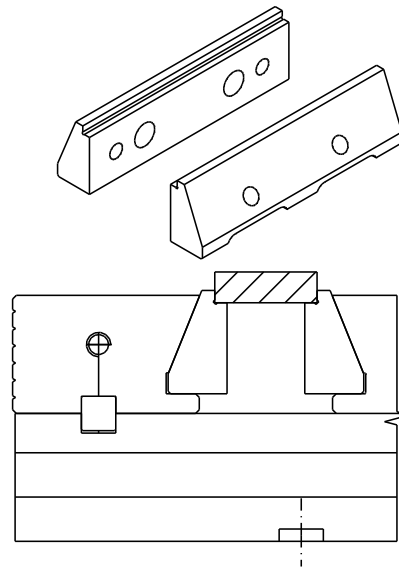
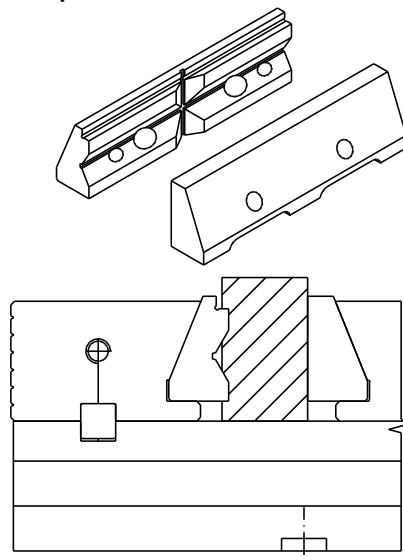

Fig. 22. Stepped jaw insert.
Fig. 23. Prismatic jaw insert with step.
- Clamping the workpiece with the prismatic or stepped jaw inserts (Fig. 22, Fig. 23)
When clamping shafts with the prismatic jaw insert (Fig. 23) the other jaw insert must have plain surface.